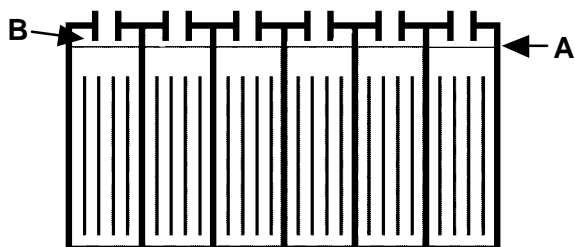

FIG. 28
2. Each week **after** charging, check fluid level (A) in each battery cell of all batteries. The level should be 1cm from bottom of sight tubes (B). If needed, add just enough distilled water to raise level 1cm from bottom of sight tubes. **DO NOT** overfill (Figure 28).